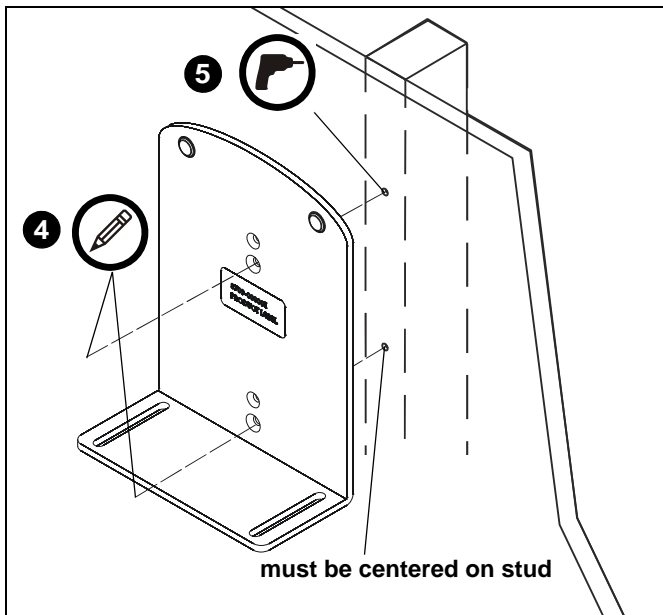

Figure 2
3. Align mounting holes in CPU wall plate (A) with stud making sure mounting holes are centered on stud. (See Figure 2)
4. Mark location of two mounting holes on wall using the wall plate as a template. Mark holes where the top and bottom holes of the bracket will be connected. (See Figure 2)
5. Drill two 1/2" holes. (See Figure 2)